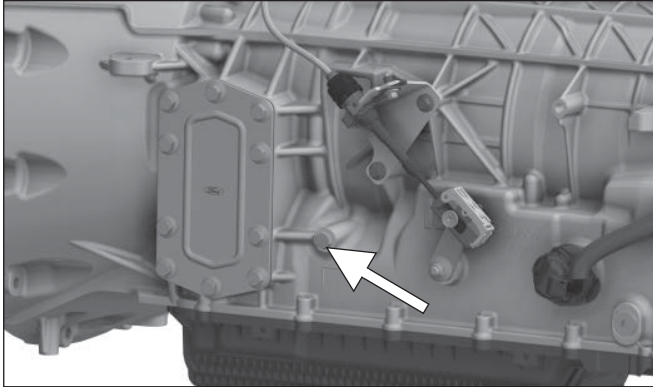

Figure 13
4. Remove the transmission pressure port plug (**Fig. 13**) and follow the instructions outlined below to ensure the 90-degree Adapter Fitting (PN 380750 in **Fig. 14** and **Fig. 15**) is properly installed.